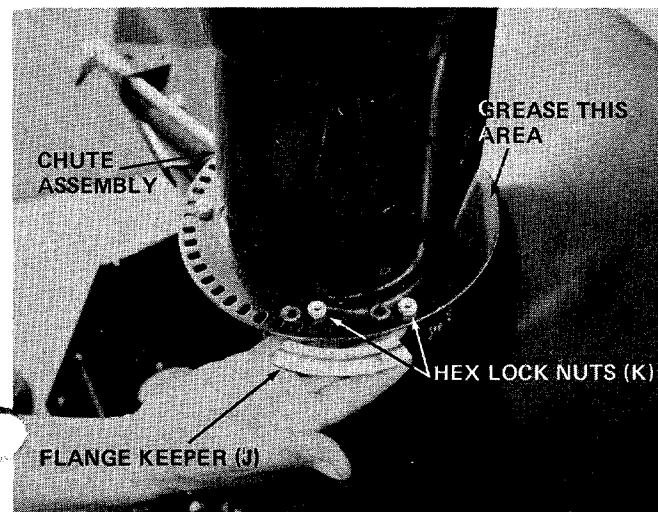

FIGURE 4
3. Apply a little grease to the lip of the chute opening before assembly of chute. See figure 4.
4. Set the chute assembly in place on the chute opening of snow thrower housing. Secure in place with three flange keepers (J) and six hex lock nuts (K). A 7/16" wrench is required. See figure 4.